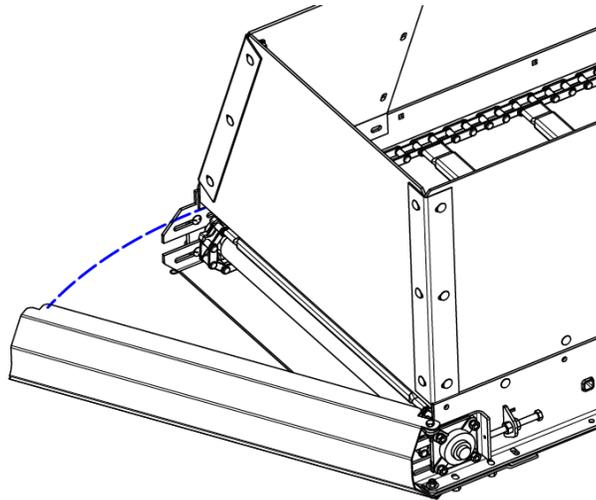

Figure 29 - Conveyor Boot
- **Figure 29** shows where to open the conveyor up to clean out